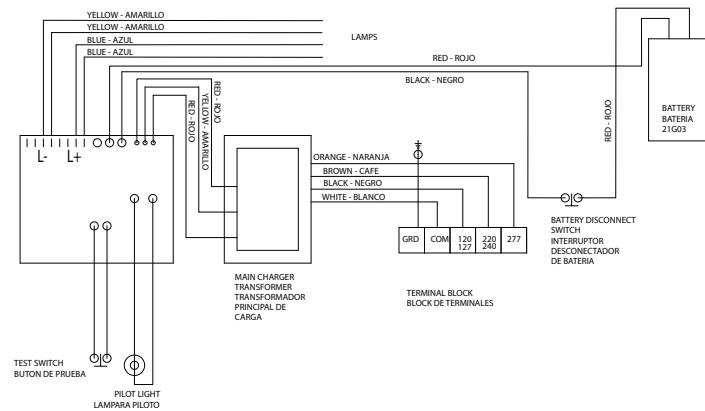

Figure 3. Wiring Diagram
- Connect EVLA12 lighting fixture(s) supply leads to slots L+ and L-. See figures 3 and 4.